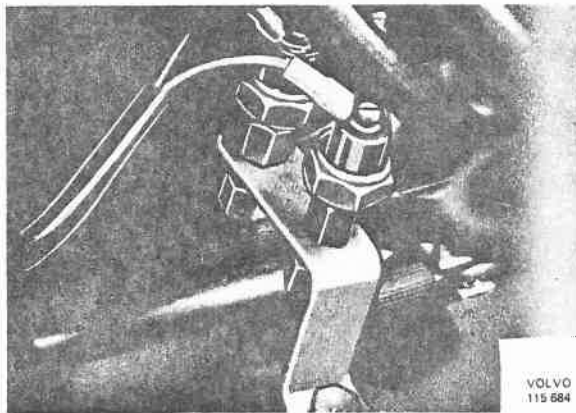

Fig. 38-26. Vacuum contact for diff. carriers
1. Disconnect the cable from the contact, see Fig. 38-26.